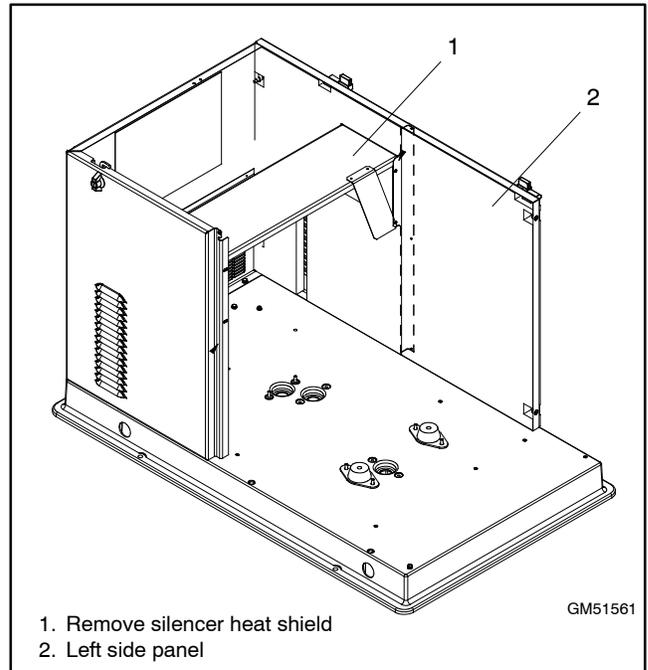

Figure 6-5 Left Side Panel (bulkhead and generator set not shown)
- Remove the heat shield over the silencer by removing four screws. See Figure 6-5.
- From the inside of the enclosure, remove the remaining screws to remove the non-service side housing panel. See Figure 6-5.